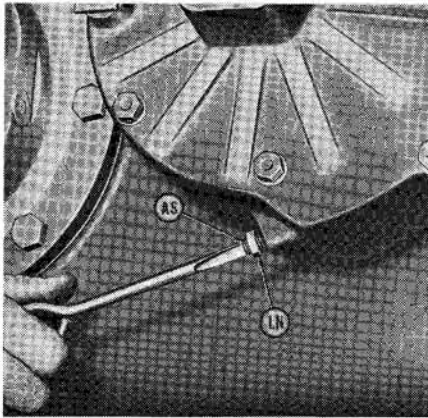

Fig. 164 — Adjusting model "FSM" and "New FSM" brakes. Refer to text and also to Fig. 165.
**215. ADJUSTMENT.** To adjust the disc type brakes, first refer to Fig. 164 and loosen the locknut (LN) on adjusting screw (AS) protruding from lower side of brake housing. Turn the adjusting screw in until brake is fully locked, then back screw out 1½ turns